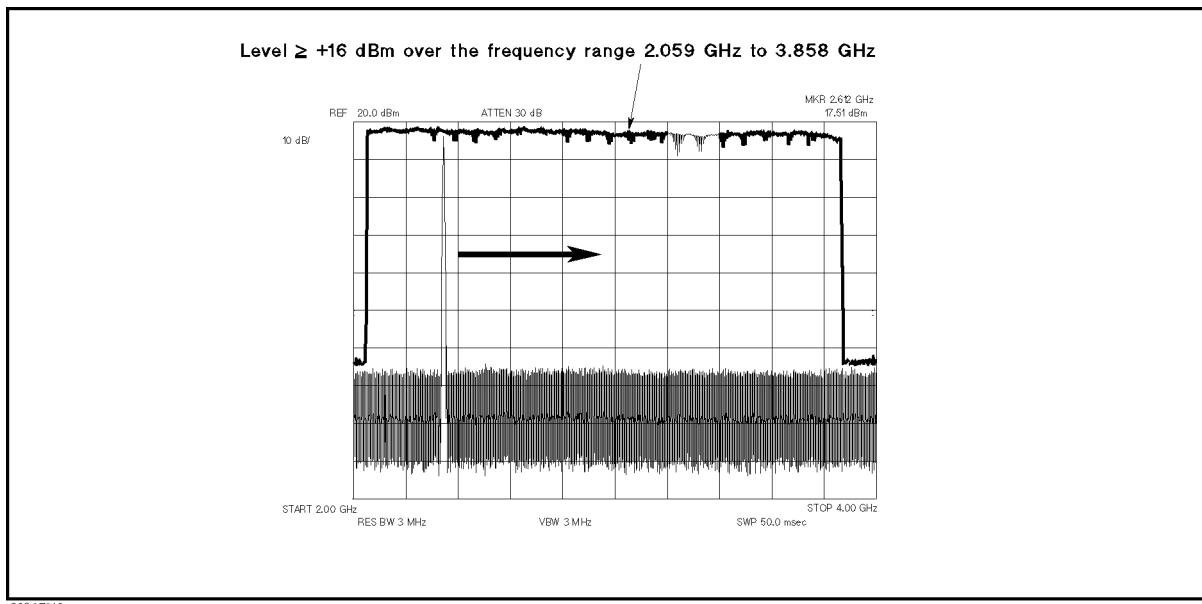

Figure 7-16. 1st LO OSC Typical Signal (Single Mode) at A4J4
e. Wait for the completion of the sweep, and check that the signal level is higher than +16 dBm over the frequency range of 2.059 GHz to 3.858 GHz. The displayed trace should be as shown in Figure 7-16.